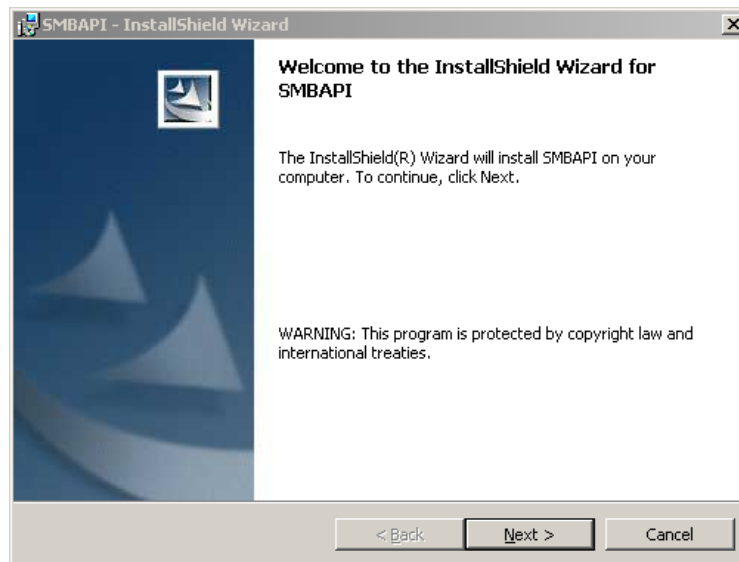

Figure 8-38: Welcome Screen
Step 5: The **Welcome** screen in **Figure 8-38** appears.